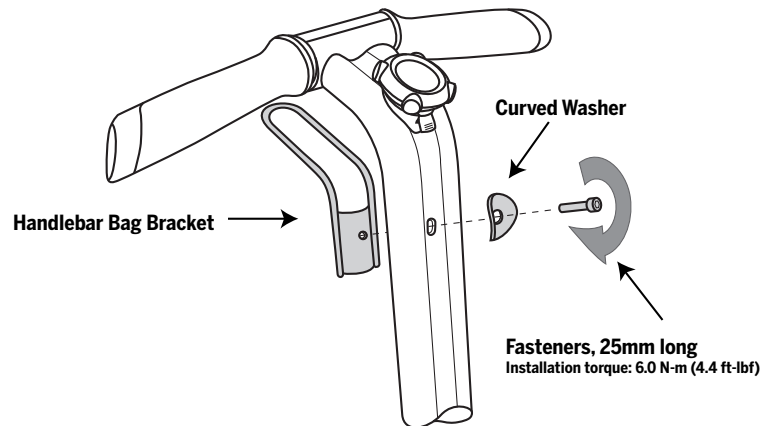

Figure 1. Installing the Handlebar Bag Bracket
2. Position the 25mm long fastener through the curved washer and into the LeanSteer™ frame. Thread the fastener into the Handlebar Bag bracket. See Figure 1.